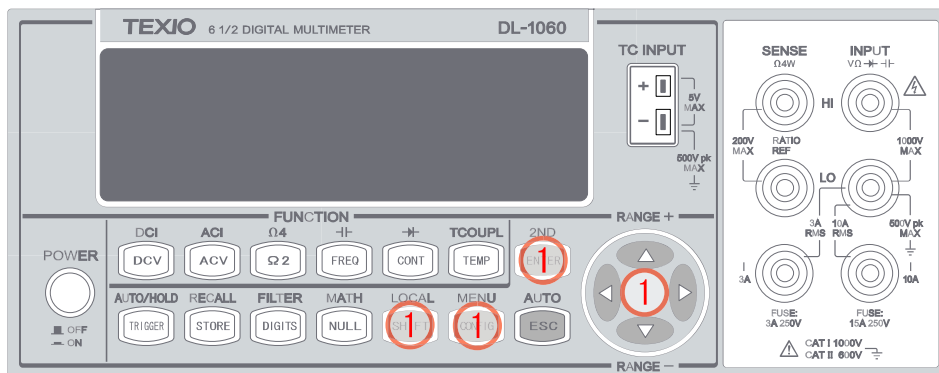

Figure 3-39
1. Do the procedure SHIFT + CONFIG > SYSTEM > SYSTEM VER > ENTER to check the DL-1060’s firmware version. The multimeter gives three numbers in xx-xx-xx format on the display. The first number is the firmware revision number for the measurement microprocessor; the second number is for I/O processor and the third number is for the front-panel processor as shown in **Figure 3-39**.